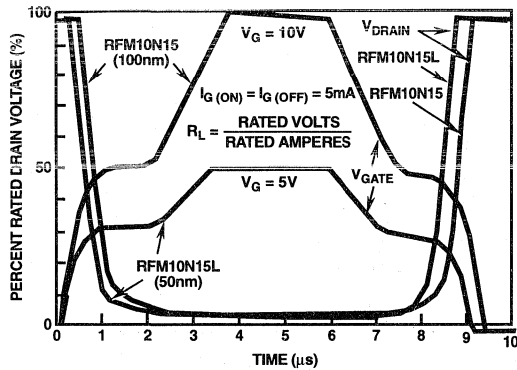

FIGURE 5. CHARACTERIZATION CURVES FOR REPRESENTATIVE DEVICES DRIVEN FROM A CURRENT GENERATOR
Figure 5 presents the curves for the RFM10N15 and RFM10N15L when each is driven from a current generator whose  $I_{G1} = I_{G2}$ , with gate voltage limits of zero and 10 or (5) volts. The drive current is kept the same for both devices in this case even though the L2FET receives less drive power or energy. The value for  $I_{G1}$  and  $I_{G2}$  was chosen as 5mA; the time scale is 1μs/division.
The following discussion relates the prior model discussion to the waveforms of Figure 5. The discussion begins with the gate voltage at +5V or +10V and the gate current equal to zero. This condition corresponds to saturated behavior, where the drain current is approximately equal to  $I_D(\text{max})$  and the drain voltage equals  $I_D(\text{max})$  times  $R_{DS}(\text{ON})$ .